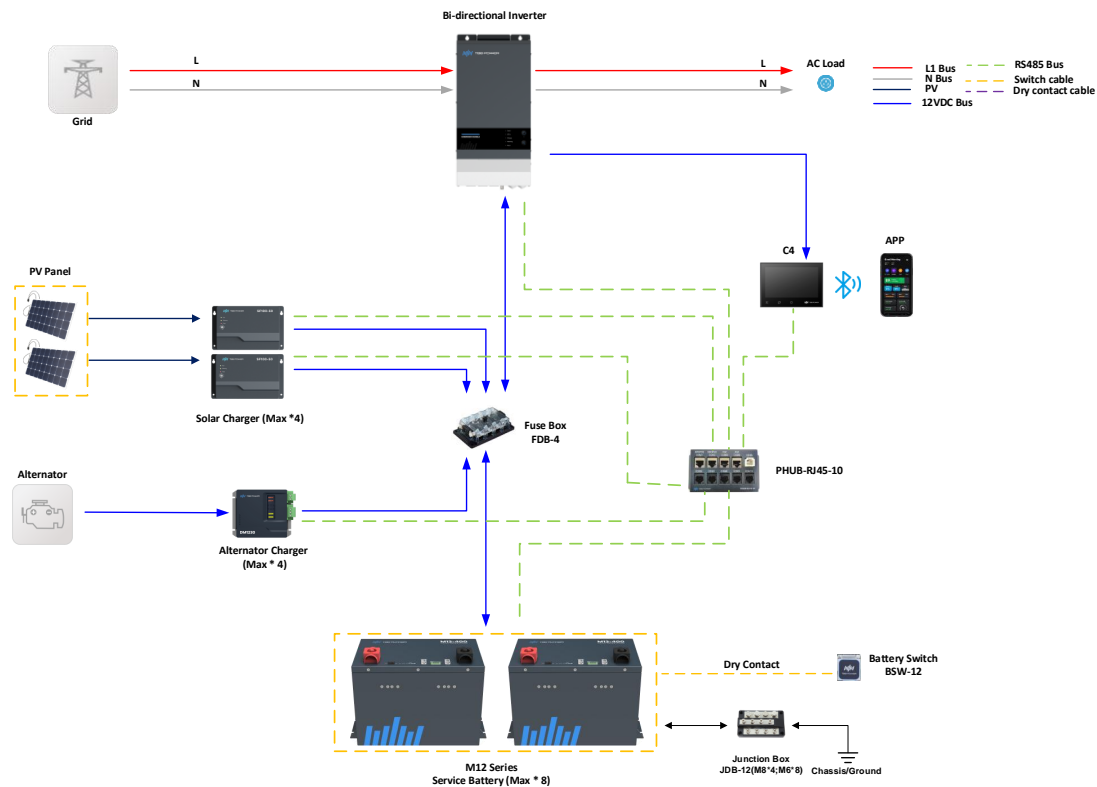

fig 2-1 Single Inverter 01 Mode
1. The wiring diagram for Single Inverter 01 mode is shown in Figure 2.1, and the